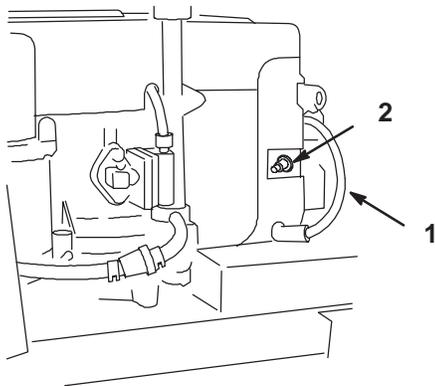

Figure 21
3. Pull the wire(s) off the spark plug(s) (Fig. 21). Clean around the spark plug(s) to prevent dirt from falling into the engine and potentially causing damage.
3. Push the wire(s) onto the spark plug(s) (Fig. 21).